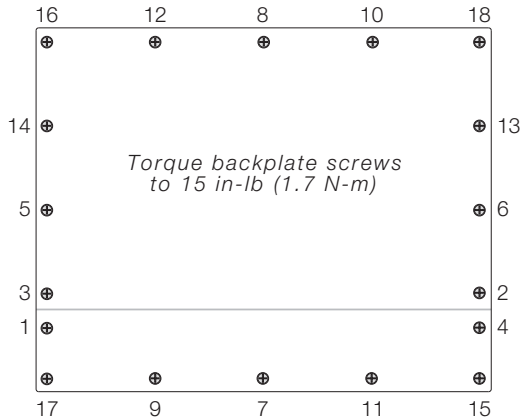

Figure 2-4. 820i and 920i enclosure backplate
8. For indicator models that include a backplate, position the backplate over the enclosure and reinstall the backplate screws. For the 920i desktop and universal models, use the torque pattern shown in Figure 2-4 on page 3 to prevent distorting the backplate gasket. Torque screws to 15 in-lb (1.7 N-m).